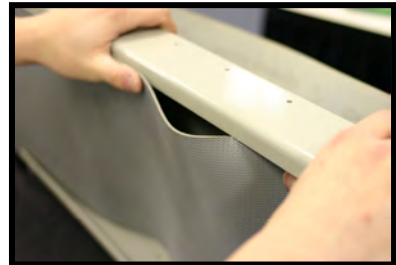

Figure 9
b. Snap the belt into the frame flanges up to the Drive End (Figure 9). Now replace the Drive Mounting Plate and Drive cover.